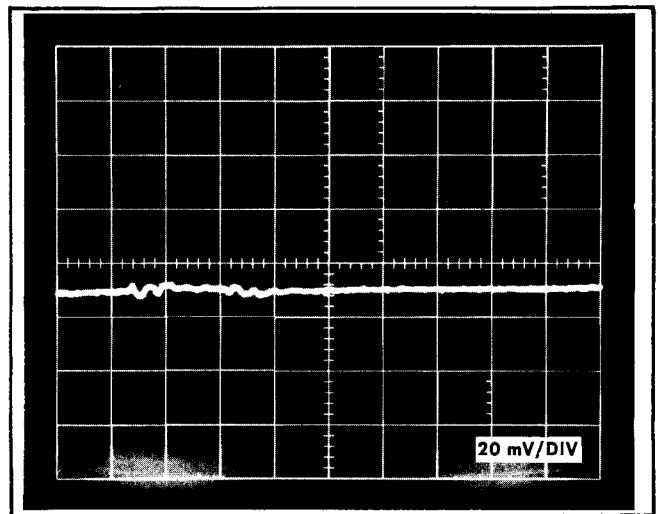

Fig. 7-42. Typical display of Trigger Kickout.
- c. Set the TRIG SENSITIVITY control for a free-running trace and measure the amplitude of the pulse on the Indicator Oscilloscope, Fig. 7-42.